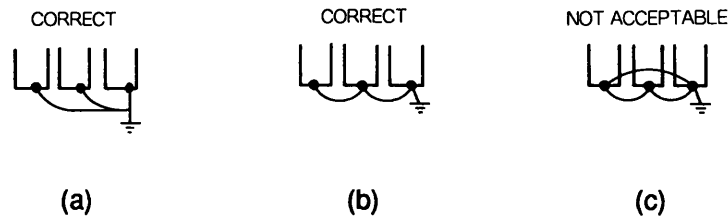

Fig. 2.9 Grounding of Three VS-616R3 Units
- ① Ground resistance should be $100\ \Omega$ or less.
- ② Never ground VS-616R3 in common with welding machines, motors, and other large-current electrical equipment, or ground pole. Run the ground lead in a separate conduit from leads for large-current electrical equipment.
- ③ Use the ground leads which comply with AWG standards and make the length as short as possible.
- ④ Where several VS-616R3 units are used side by side, all the units should preferably be grounded directly to the ground poles. However, connecting all the ground terminals of VS-616R3 in parallel, and ground only one of VS-616R3 to the ground pole is also permissible (Fig.2.9). However, do not form a loop with the ground leads.